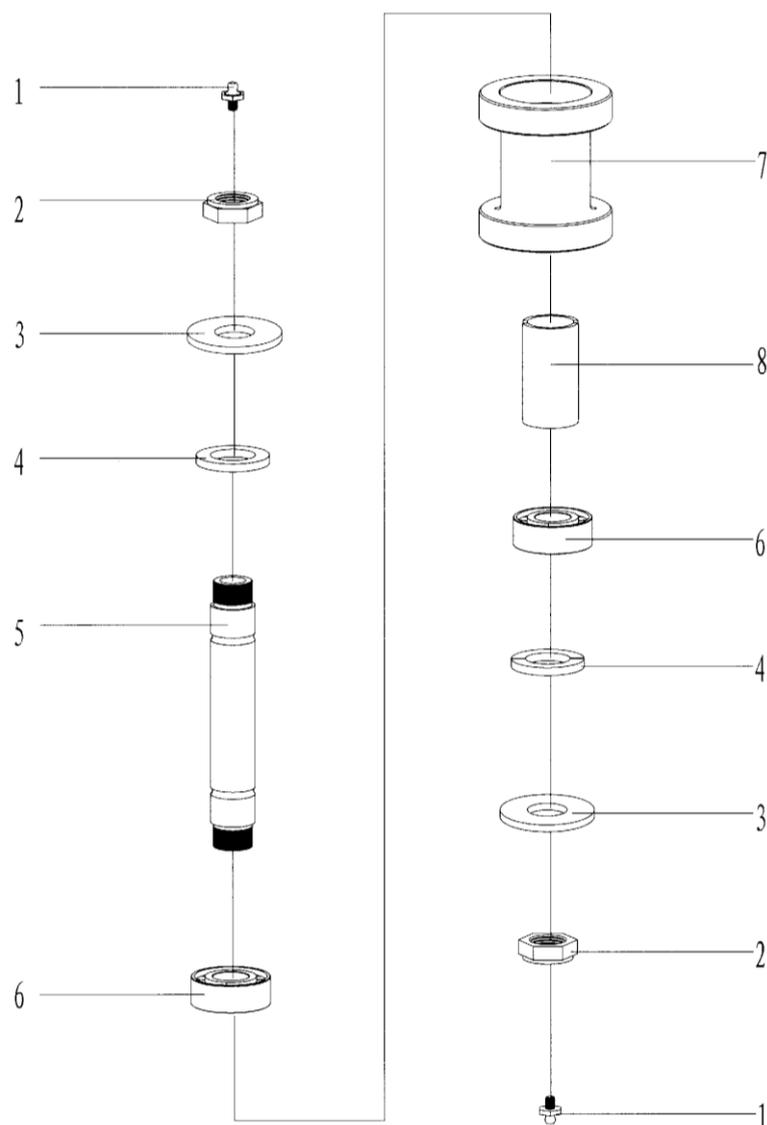

**Fig. 20**
**7.1.13 Suspending rod assembly(Fig.20, Table.15)**